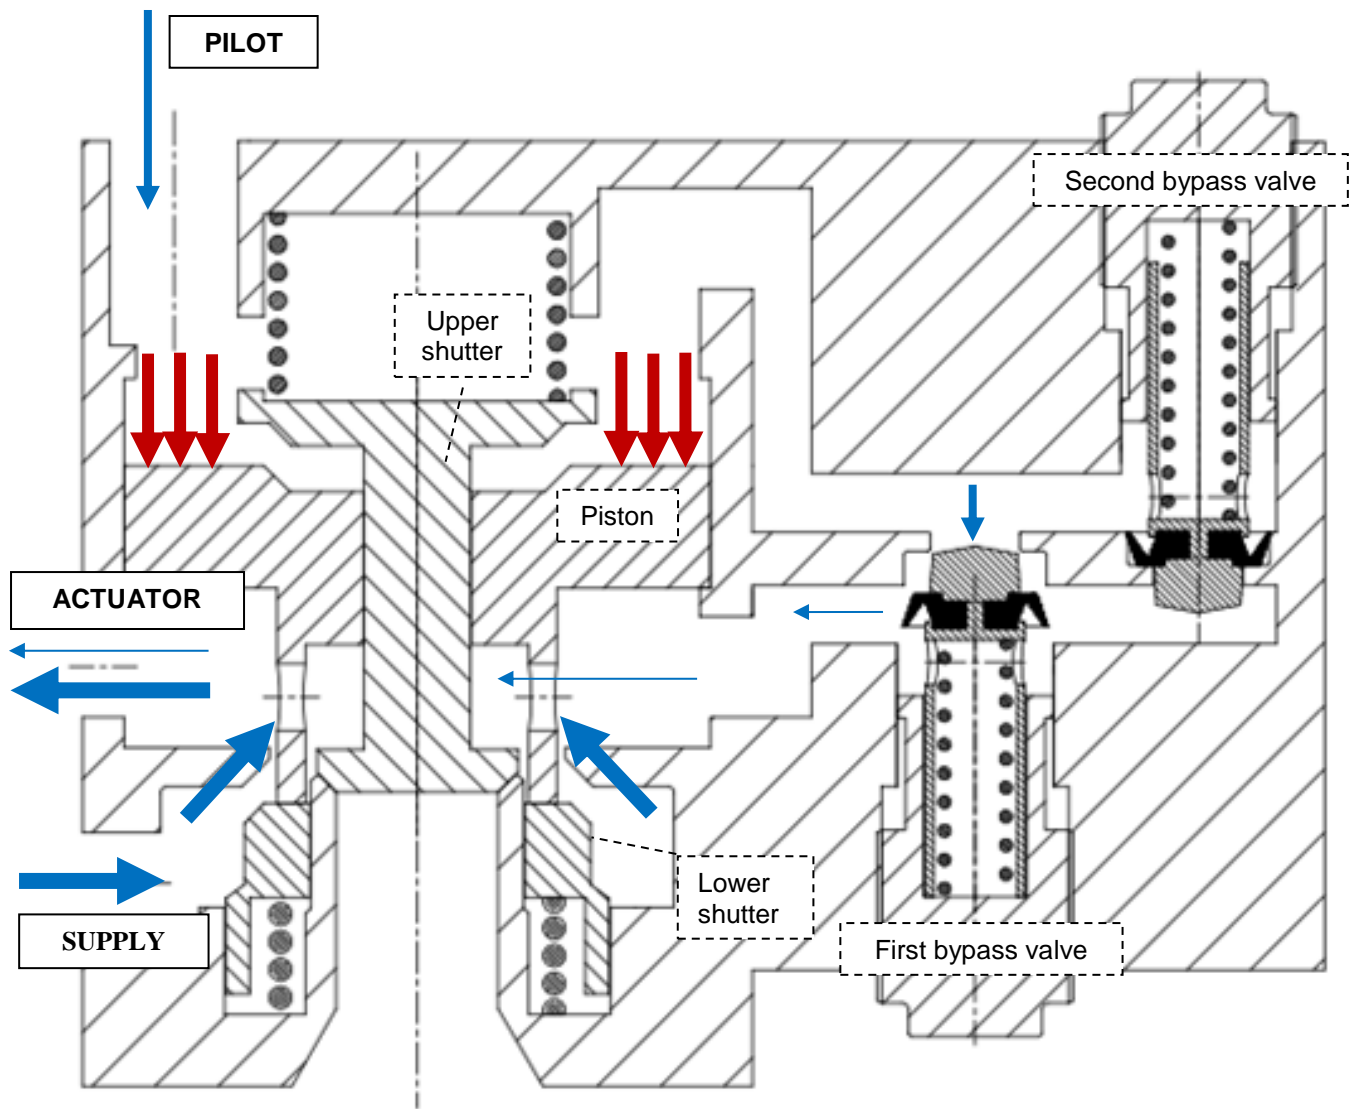

Figure 6 - supply setup: on-off mode (sketch)
- c) if the flow rate is much greater than a threshold value depending on bypass valve adjustment, the bypass valve throttling generates a pressure drop between the two side of the piston and the working fluid pushes down the piston and the lower shutter, allowing the connection between the BW supply chamber and the actuator chamber. In this case the lower shutter generates the greatest flow section available because the piston reaches its lower stroke limit. This case is called "on-off mode" and it is the Safety Function (figure 6).